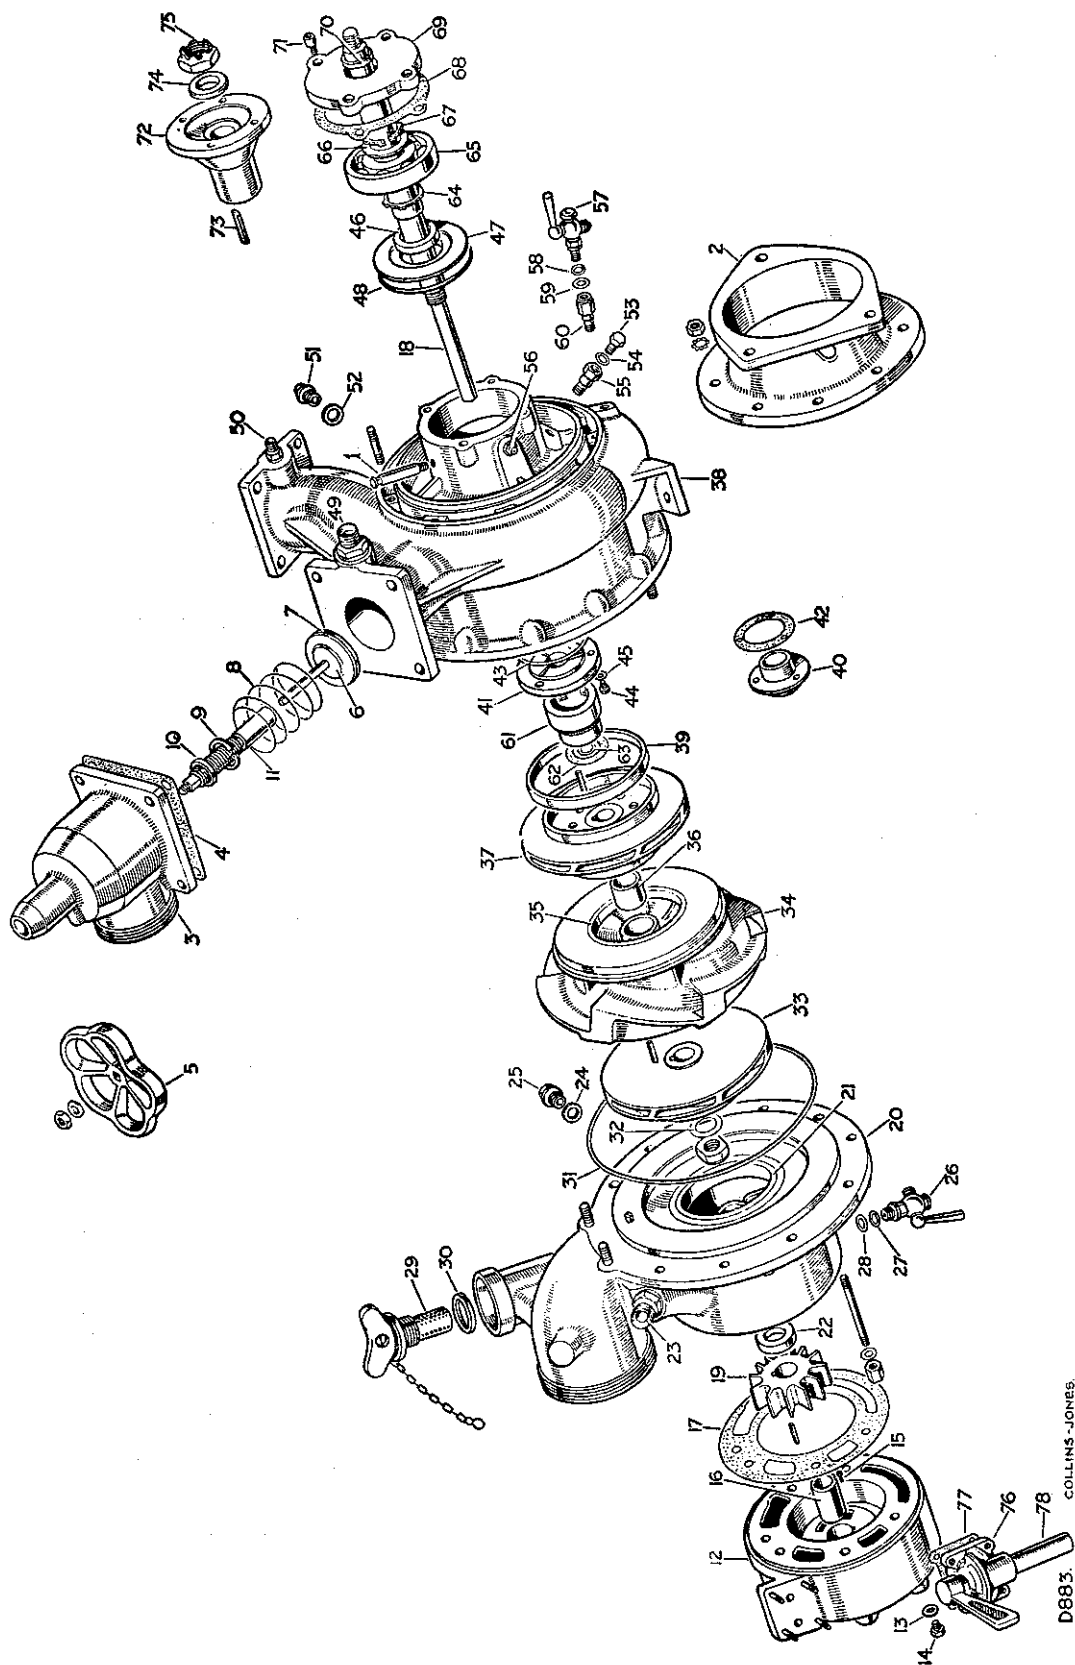

Fig. T-44--Exploded view of pump
Key to Fig. T-44
5. The fibre washer and "O" ring seal (see Fig. T-44) must be replaced if any sign of deterioration exists.